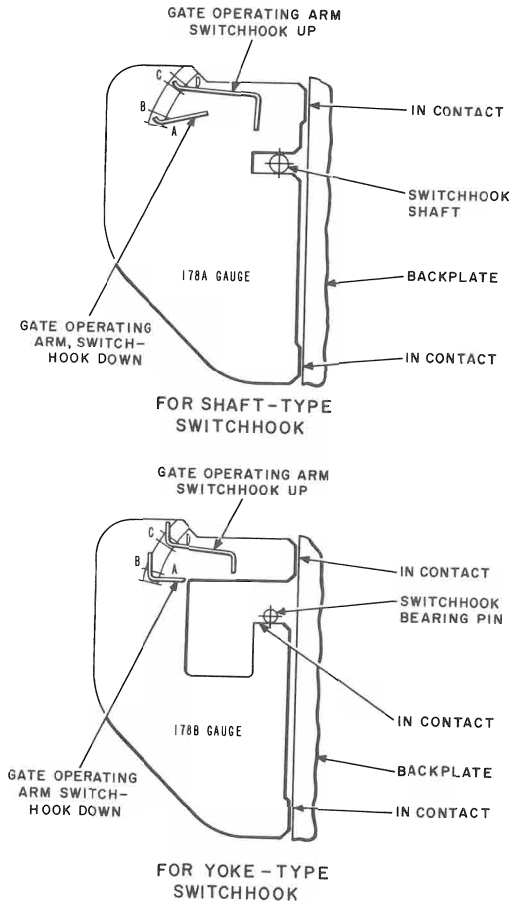

Fig. 38—Use of 178-Type Gauge
- (1) Deposit a single nickel which should be stopped by holding latch.
- (2) Lower switch hook slowly to release nickel.
- 6.70 If requirement in 6.69 is not met, check operating arm using 178A or 178B gauge (Fig. 38).